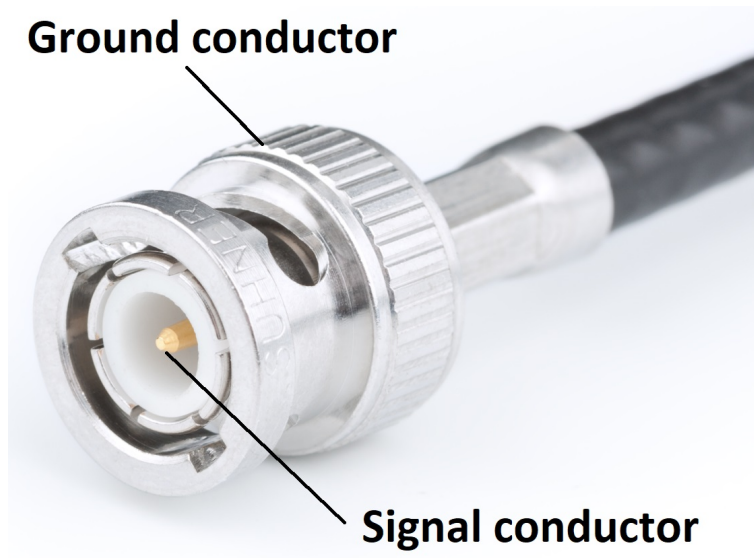

Figure 2: BNC Plug Connector
2. Display the waveform on the scope. You can use a BNC cable (see Figure 2) to make the connection. You will need to trigger the scope off of the waveform.